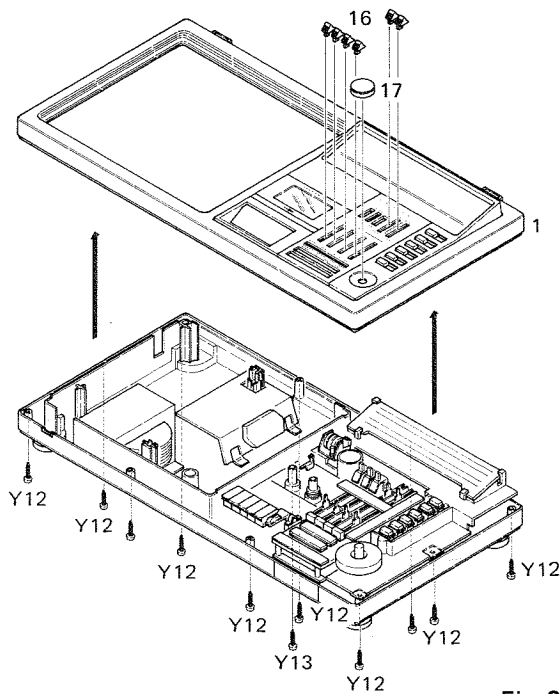

Fig. 2
B. Removing deck panel (cf. Fig. 2)
1. Detach from their shafts six slide knobs (16) and one tuning knob (17) for operation control.
2. Remove the 10 screws (Y12) and the screw marked (Y13), and the deck panel (1) will come off.